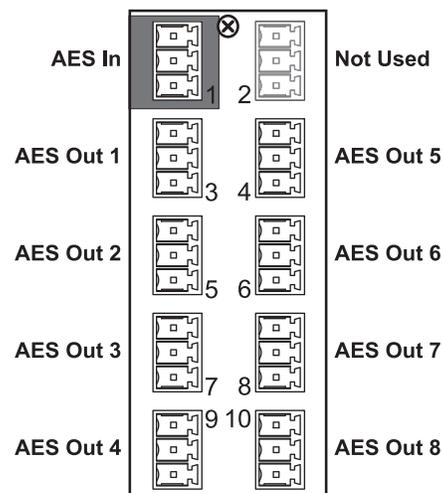

Figure 9 Cabling for the 8320AR-042A
- 8320AR-042A — Each rear module occupies two slots and accommodates one card. This rear module provides one AES input and eight AES outputs. (**Figure 9**)